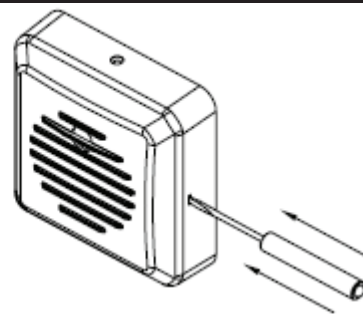

Figure 4: Removal (See step 8 below)
8. To remove the appliance, push a small flat-bladed screwdriver into the side opening. The screwdriver must clear the snap release opening by 1/4" to disengage the snap. Do not pry off housing with the screw driver. Apply pressure with screw driver, inserted in either side opening, as shown in Fig 4 to release the housing.